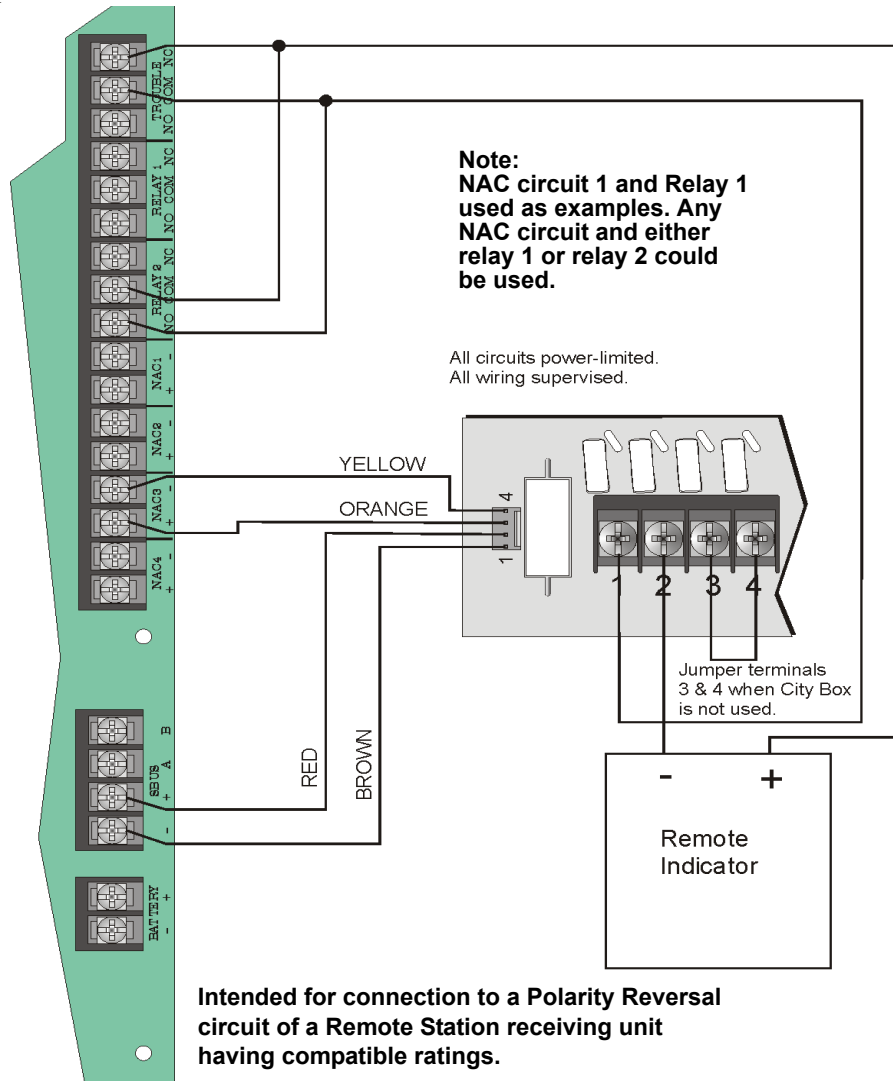

Figure 4-33 Polarity Reversal Connection Using the 5220 Module
2. Wire the 5220 to the control panel using the four-wire pigtail provided as shown in Figure 4-33. This diagram also shows how to connect the 5220 to the remote indicator. Do not install an EOL resistor in the terminals of the NAC circuit used for this application.